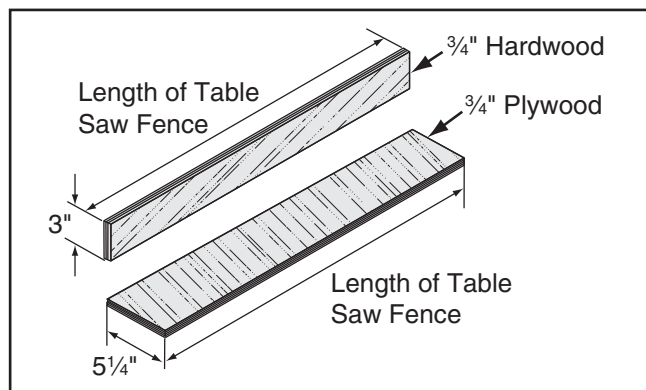

Figure 91. Auxiliary fence dimensions.
1. Cut a piece of $\frac{3}{4}$ " thick plywood $5\frac{1}{4}$ " wide and as long as your table saw fence; cut a piece of $\frac{3}{4}$ " thick hardwood 3" wide and as long as your table saw fence, as shown in **Figure 91**.